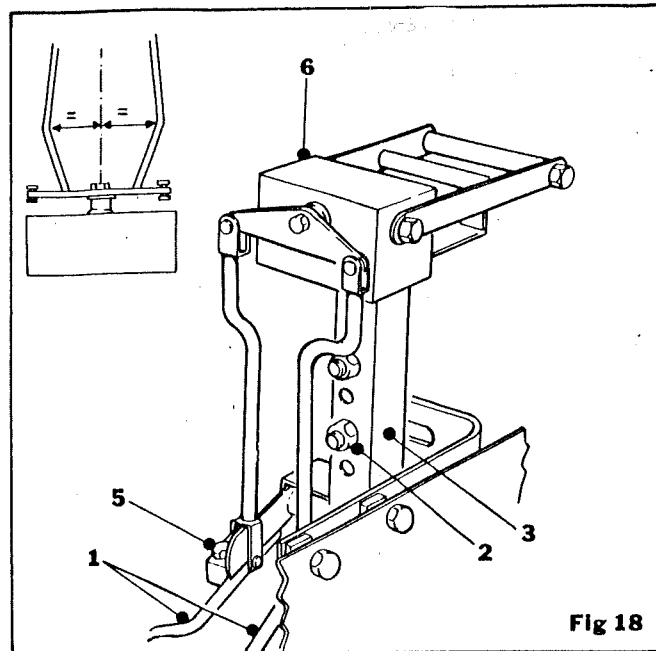

Fig 18
The purpose of the self steering is to allow the harvester to follow the rows of beet irrespective of the contours of the land. This is achieved by the two steorage feet (item 1 fig. 18) running beside the beet. Once either of the feet (item 1 fig. 18) has been lifted, it will actuate a micro switch which in turn operates a hydraulic ram connected to the drawbar, this will then correct the harvester.
The steering unit has two height positions, to adjust remove the two retaining bolts (item 2 fig. 18) and replace them in the upper or lower holes in the steering unit leg (item 3 fig. 18).
The position of the steorage unit can be adjusted to suit varying row widths, to adjust slacken the two retaining bolts (item 2 fig. 18) and move the steering unit across to the required position.
The distance between the two steorage feet (item 1 fig. 18) can be adjusted to allow the feet to pass the largest beet. to adjust, slacken the two setscrews (item 5 fig. 18) on each of the steorage feet and move the feet in or out to give the required width. Both feet should be adjusted to leave them central about the steorage unit (see fig. 18).
The mechanism inside the self steering box (item 6 fig. 18) has been factory set and should not be tampered with. The automatic steering should only be used once the machine is moving forwards. To actuate the automatic steering see Control Box Operation.